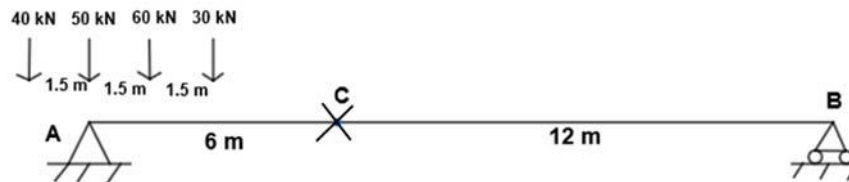

Fig.3
- c) A train of four concentrated loads crosses a simply supported girder of 10 m span with 30 kN leading. See fig3. Determine